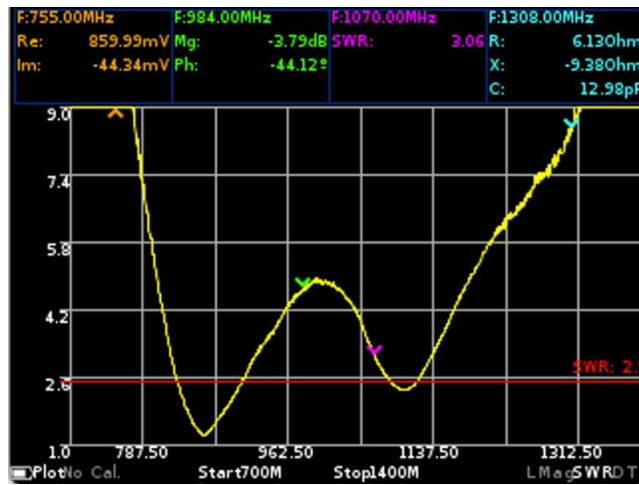

Figure 10.8 – Plot of VSWR
10.6.1. The plot shows the voltage standing wave ratio (VSWR). The plot on the device screen (Figure 10.8) is displayed as **SWR**.
*In our example, in figure 10.8, the VSWR of a GSM antenna with a working frequency of 900 MHz is measured. The chart includes four markers and the display of the VSWR limit line with a value of 2.5. Above the plot displays the measurement values of the four included markers in the specified units.*